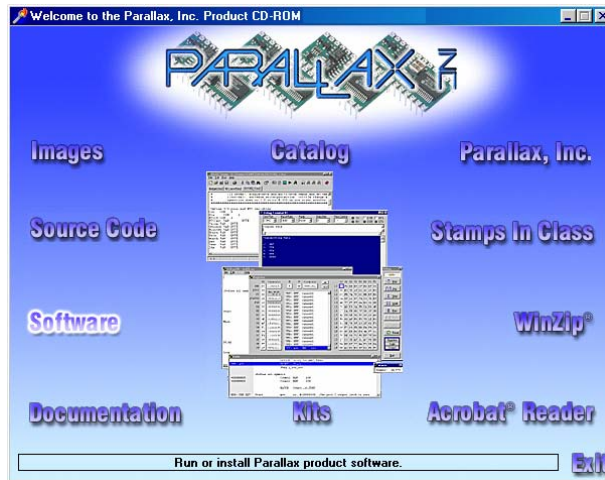

Figure 1-10
- √ Place the Parallax CD into your computer's CD drive. The Parallax CD browser is called the Welcome application. It's shown in Figure 1-10 and it should run as soon as you load the CD into your computer's CD drive.
- √ Click the Software link shown in Figure 1-10.